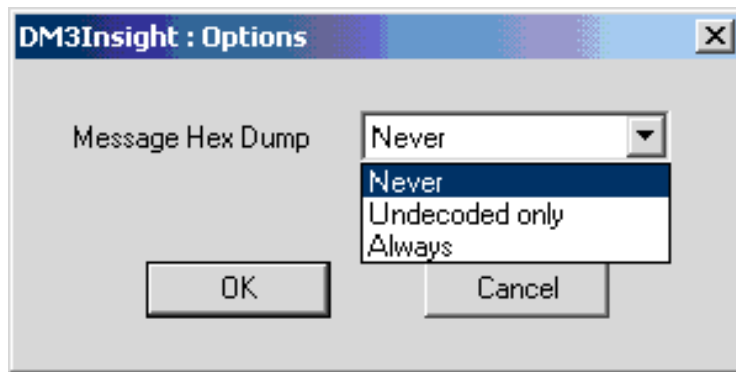

Figure 17. DM3Insight: Options
1. Select **Options** from the System Menu. The **DM3Insight: Options** screen appears (Figure 17).
2. From the drop down list on this screen (Figure 17), select a Message Hex Dump option from the following: